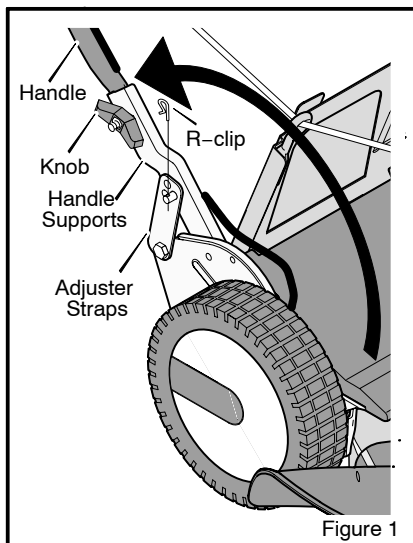

Figure 1
4. Put the **handle supports** in the operating position (Figure 1).